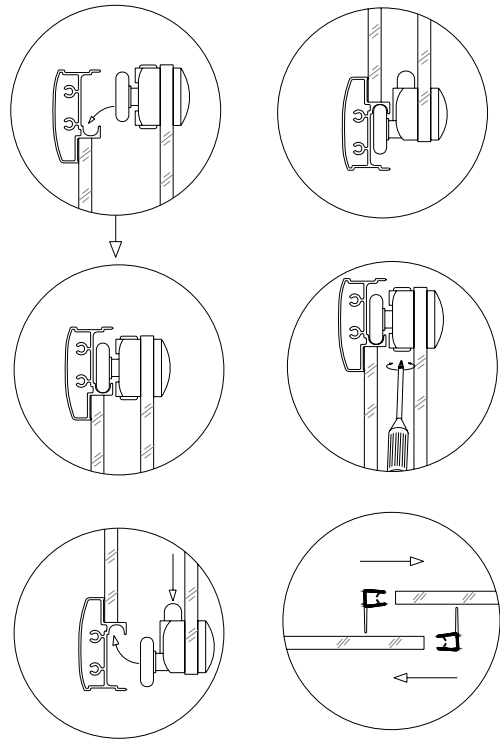

Fig 10
12. Secure the handles to the doors. Slide the top door wheels into the top guide rail and push the bottom wheels in the bottom guide rail by pressing down the button. Attach the magnetic strips to the glass doors. Use the Phillips screwdriver #2 (**do not use power screwdriver**) to adjust the upper wheels, make sure they move smoothly and the doors close tight. Then attach the anti-water strips (fig 10);